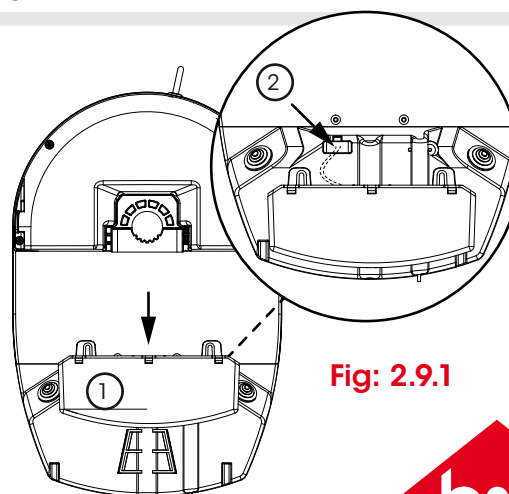

Fig: 2.9.1
- Mount battery backup pack ① onto support chassis by sliding down over the slots. Connect the coupling wire to the battery as shown (**Fig 2.9.1**).